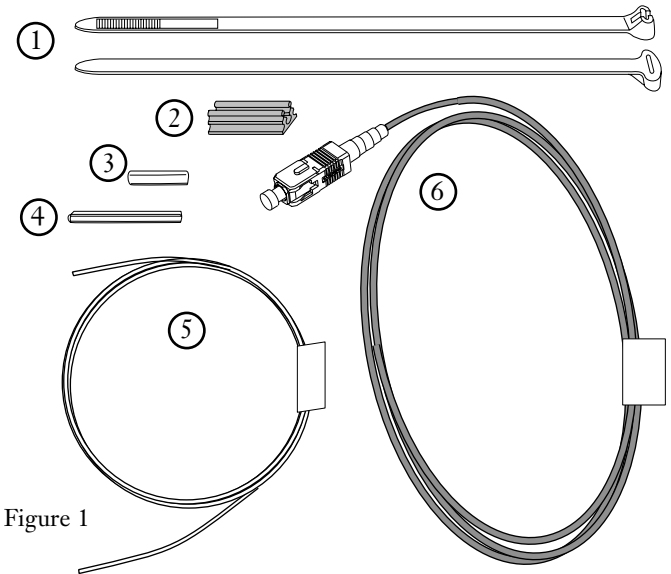

Figure 1
**4.1** The Indoor NID/ONT Pigtail Splice Kit contains the following items (Figure 1):